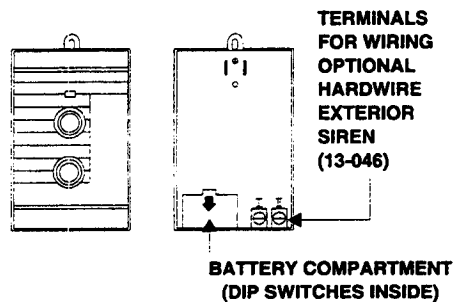

Figure 26. WIS Battery Cover Location
- 1) Remove the battery cover on the back of the WIS (see Figure 26).